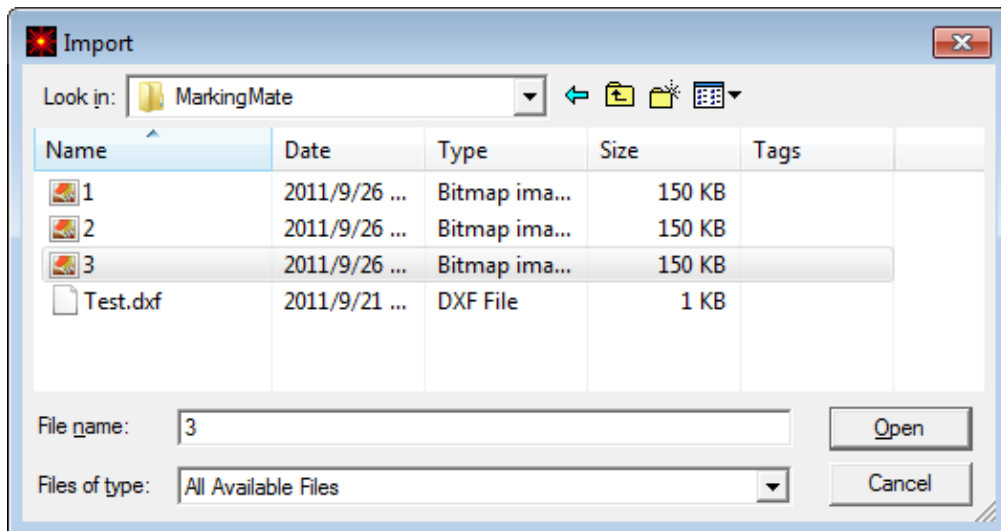
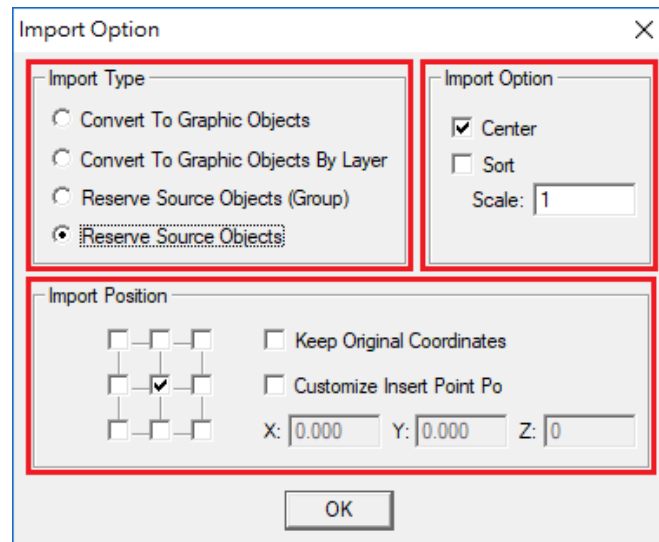

Fig. 1.1.70
Fig. 1.1.71
This function allows user to import an image file that was not originally created by MM3D, such as *.bpm or *.dxf. The system will automatically convert that file into a format supported by MM3D after using import function, see Fig.1.1.70. If the import object is a group or combine object, users can use “Ungroup” or “Break” function to break that object into several individual objects, see Fig.1.1.71.
3. If file is already existed, will pop-up a dialog to confirm to replace, skip, or rename the file. See fig. 1.1.70.